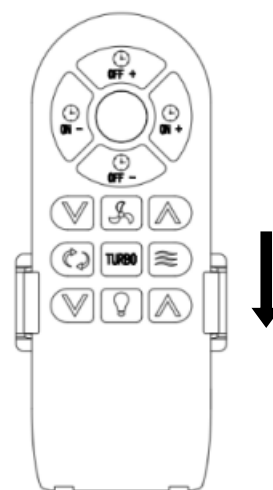

Fig. 9b
2. Slide the remote into the holder to rest the remote. (Fig. 9b)